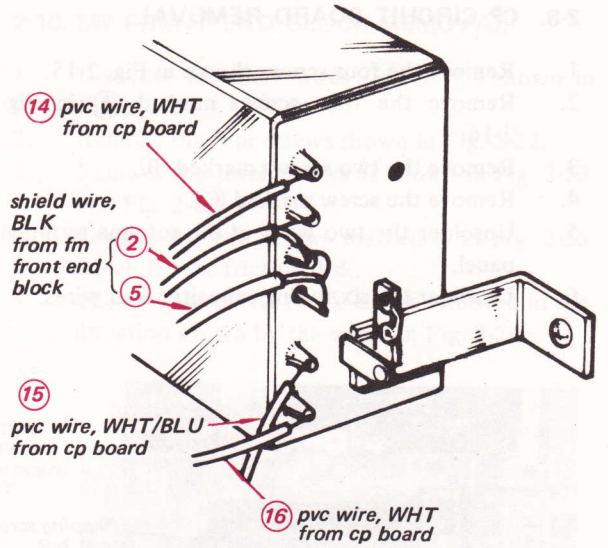
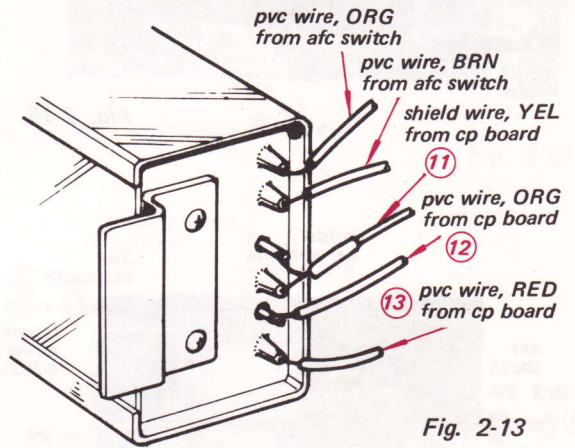

Fig. 2-12
Fig. 2-13
3. Unsolder all the wires shown in Fig. 2-12 and Fig. 2-13.